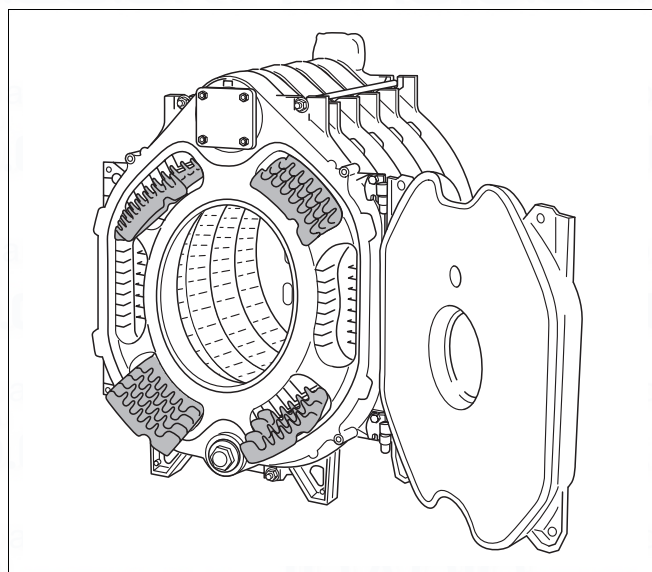

Fig. 27 Hot gas baffle plates
- Take hot gas baffle plates out of the fittings case and insert into the hot gas flues as indicated by the **inscription on them** (→ Fig. 27 and following table).